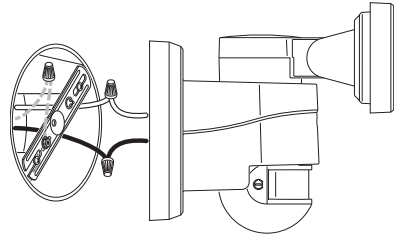

Figure 2
3. Attach the junction box ground wire to the ground wire attached to the mounting bracket using one of the wire connectors (see Figure 2).
4. Twist the junction box wires and fixture wires together as shown. Secure with wire connectors (see Figure 2).